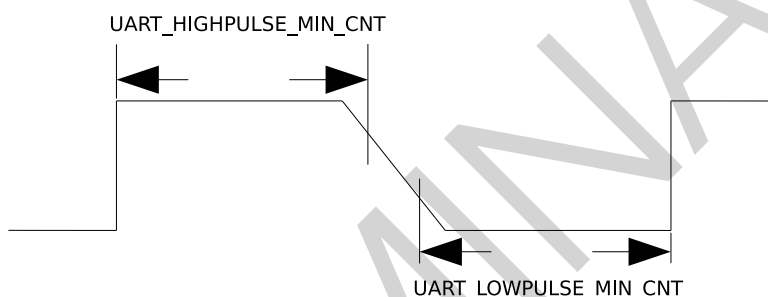

Figure 24-4. The Timing Diagram of Weak UART Signals Along Falling Edges
2. If UART signals are weak along falling edges as shown in Figure 24-4, which leads to inaccurate average of `UART_LOWPULSE_MIN_CNT` and `UART_HIGHPULSE_MIN_CNT`, use `UART_POSEDGE_MIN_CNT` to determine the transmitter's baud rate as follows: